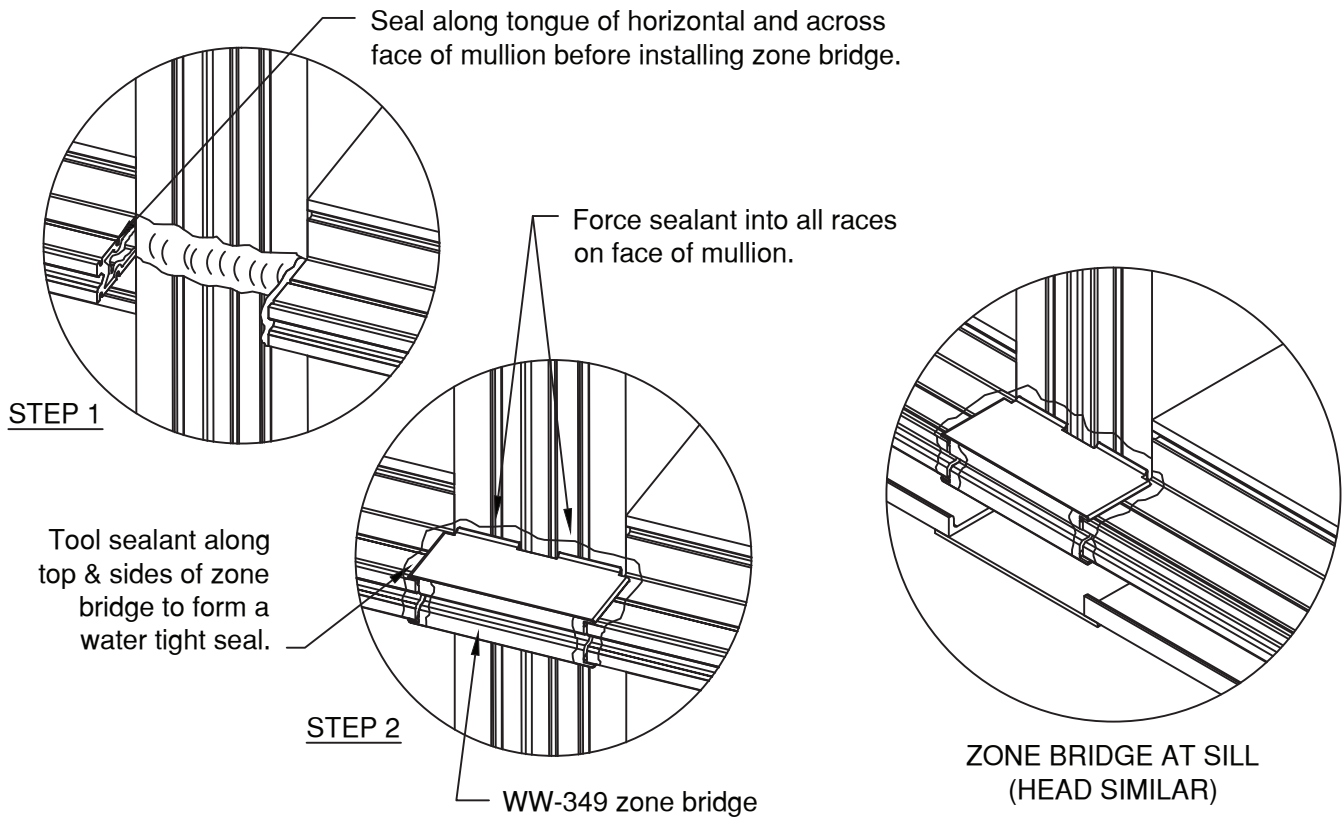

FIGURE 20
3.8 At SSG mullions, apply sealant to all contact surfaces on vertical and horizontal mullions where zone bridges will be installed. Apply sealant to horizontal tongue receptor on zone bridge and install at the end of each horizontal, head and sill members. Tool any excess sealant around front end of zone bridge where the thermal isolator runs through. Tool sealant in the glazing pockets to ensure a watertight fit. **SEE FIGURE 20, page 18.**